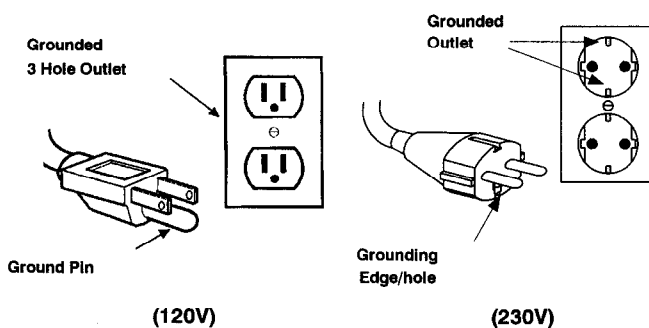

FIG. 8.
- Plug extension cord into a grounded outlet. (Figure 8.)